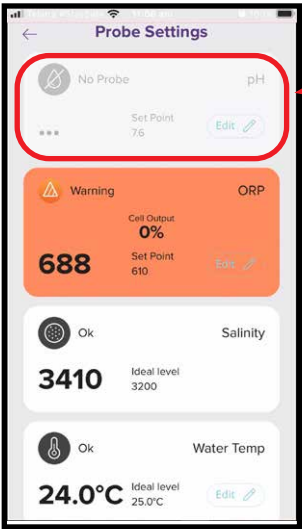

Figure 8.26
- Once you're back in the probe setting menu, where the pH reading was previously shown, it will now read "no probe" (refer figure 8.26).